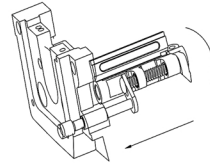

图10 (Fig.10)
2. 在穿勾线时, 将勾线座引出轴沿箭头方向拉出使勾线座向前弹出, 然后进行穿线。(图10)
2. For looper threading ,pull out the lever of looper set the arron then thread properly .cause thread brake 、 uneven stitches or skip stitches. (Fig.10)